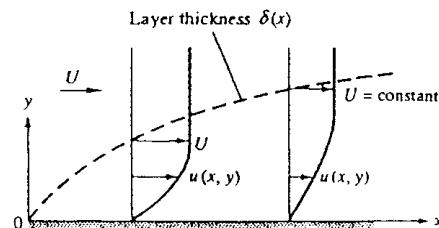

Fig. P4.17
**4.17** A reasonable approximation for the two-dimensional incompressible laminar boundary layer on the flat surface in Fig. P4.17 is
**4.24** Reconsider Fig. P4.17 in the following general way. It is known that the boundary layer thickness  $\delta(x)$  increases monotonically and that there is no slip at the wall ( $y = 0$ ). Further,  $u(x, y)$  merges smoothly with the outer stream flow, where  $u \approx U = \text{constant}$  outside the layer. Use these facts to prove that (a) the component  $v(x, y)$  is positive everywhere within the layer, (b)  $v$  increases parabolically with  $y$  very near the wall, and (c)  $v$  is a maximum at  $y = \delta$ .